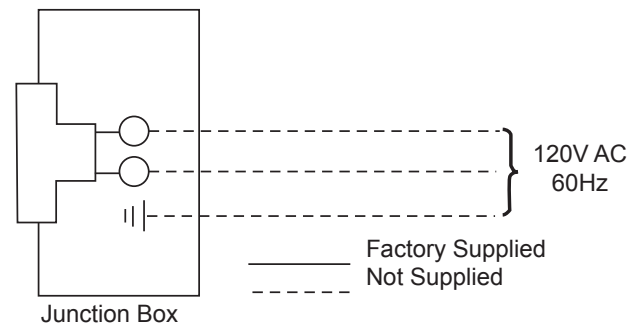

**Figure 39 -
3. The junction box cover has a factory installed “romex” style strain relief connector. After connecting the wires, route the wire leads through this connector. Refer to the wiring diagram in *Figure 39*.